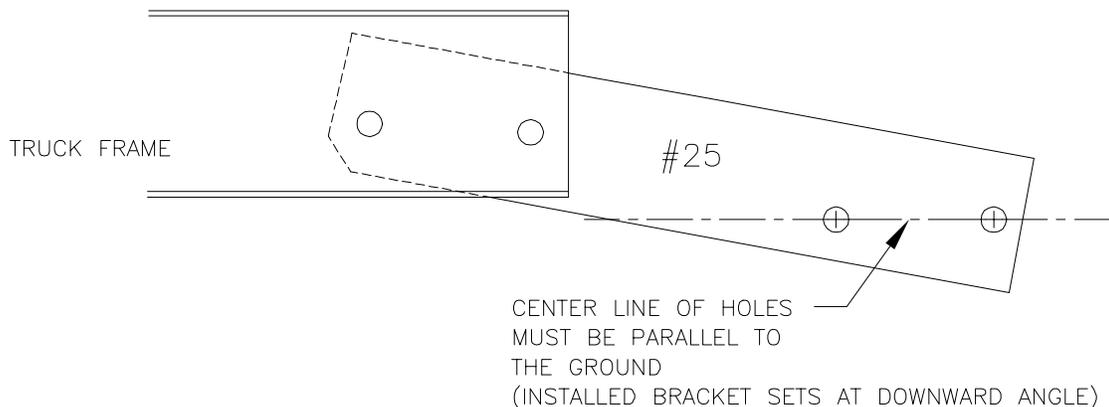

FIGURE 1 (driver side view)
STEP 1: Using 1/2 inch hardware, loosely install mounting brackets on the inside of truck frame rails with the offset outwards. Refer to figure 1 and 2. DO NOT TIGHTEN mounting hardware.